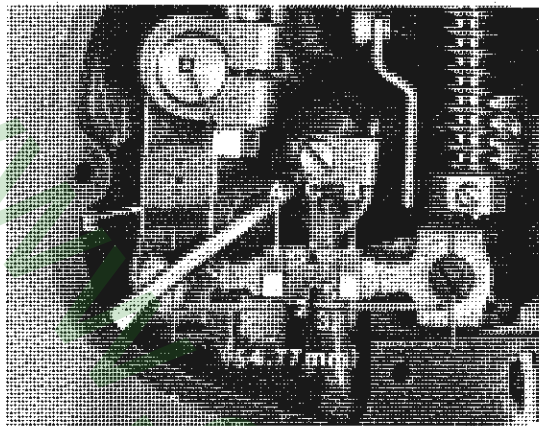

FIGURE 13
The distance between the centerline of the spreader connecting rod ball joints should be 2 5/32 inches (54.77 mm). Adjustment is made by loosening locknut (A, Fig. 13) (it has a left hand thread) and nut (B). Turn the connecting rod (C) as required. Then retighten both nuts, first nut (B) and then nut (A).
Clearance between the connecting rod ball joint and machine casting must be maintained. To obtain sufficient clearance, loosen nut (D, Fig. 13) and reposition arm (E) as required. Retighten nut (D).